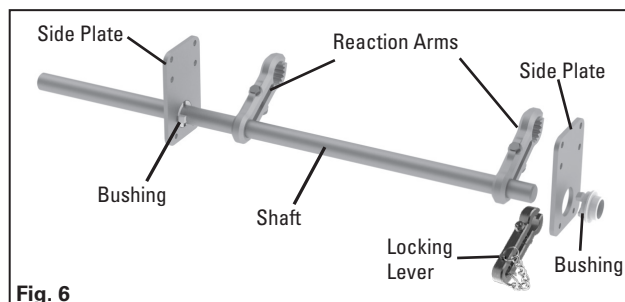

Fig. 6
13. Install shaft bushings on side plates and slide the shaft through the bushings in such a way that the torsion spring mechanism can be clamped to the shaft (Fig. 6).
14. Prior to engaging the shaft through the second bushing, install the reaction arms and optional locking lever on the shaft as shown (Fig. 6) inside the width of the conveyor structure.